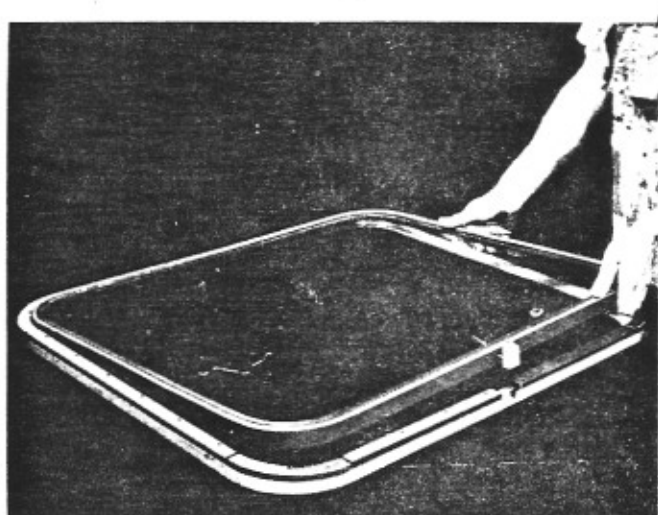

Figure 134
5. Remove glass assembly (glass, rubber and breather) from lower half of frame. (See Figure 134)
13. Place glass and rubber assembly back in metal frame. See Figure 134. See that breather is located in center of notch cut in frame. It is important there be no binding of breather and that it is free on all sides.